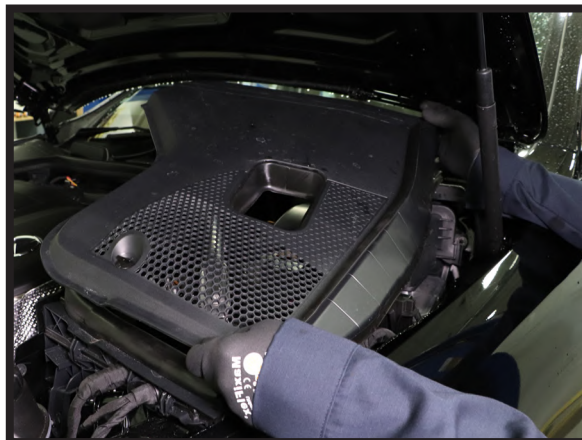

FIGURE 2
4. OPEN THE HOOD AND REMOVE ANY APPLICABLE TRIM COVERING THE STRUT'S TOP MOUNT. (FIGURE 2)